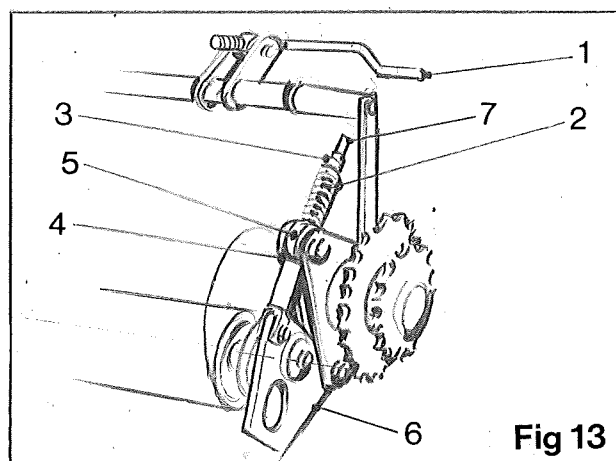

Fig 13
The roller is adjustable for height and tension. To adjust the height of the roller, turn the handle (item 1, fig 13) in the required directions. A spring (item 2, fig 13) is used to tension the roller. The tension should be such that the roller is pulled back into position after a stone etc., has passed through. Too much tension makes the roller ineffective. To increase or decrease the tension, turn the adjusting nuts (item 3, fig 13).
The roller is factory set to be as close to the web as possible. If any adjustment is required, add shims between the stop (item 4, fig 13) and the spring boss (item 5, fig 13).
To add shims, remove the two adjusting nuts (item 3, fig 13) and the spring (item 2, fig 13) whilst simultaneously supporting the bottom of the mounting plate (item 6, fig 13). This operation is necessary on both ends of the haulm roller. Once the lock nuts and springs are removed, allow the mounting plate to swing down thus pulling the spring rod (item 7, fig 13) from the spring boss (item 5, fig 13). Add the shims and re-assemble. The position of the roller in relation to the webs is dependant on the crop conditions. The higher or further away the roller is positioned determines how much haulm and clod is taken out. If the roller is set too high or a too larger gap exists, then there is a possibility that small potatoes will be lost.